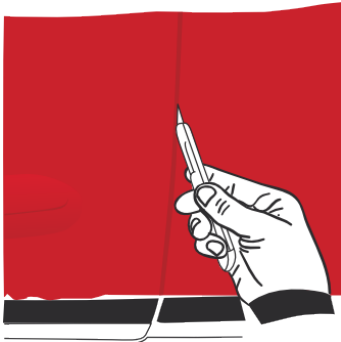

Figure 33
- › For the cut, the cutter blade must be placed against the thin edge of the part to be wrapped. When cutting, make sure you always go along the same line, with the cutter blade inclined towards the outside. (FIG. 33)